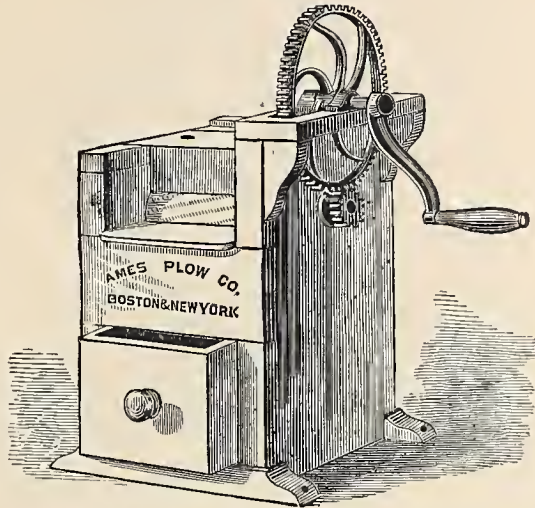

Fig. 474. — Horse-Radish Grater.
*The Horse-Radish Grater* is represented by *Fig. 474*. This is a very useful apparatus for grating horse-radish and similar substances. It is made with steel pins in the cylinder, as illustrated, or with cylinder clad with punctured tin.